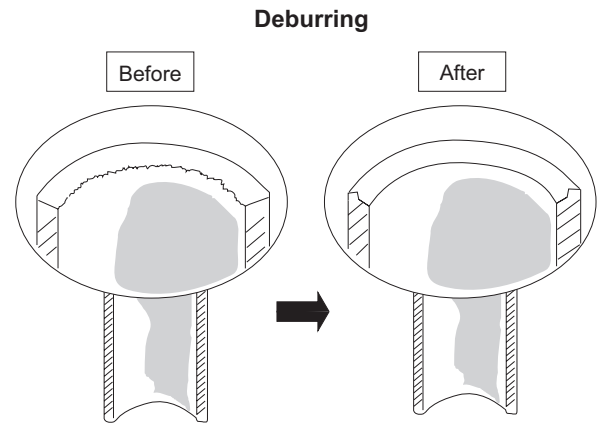

Fig. 2-15
- (1) Cut the copper tube to the required length with a tube cutter. It is recommended to cut approx. 1 – 2 ft. longer than the tubing length you estimate.
- (2) Remove burrs at the end of the copper tube with a tube reamer or file. This process is important and should be done carefully to make a good flare. (Fig. 2-15)